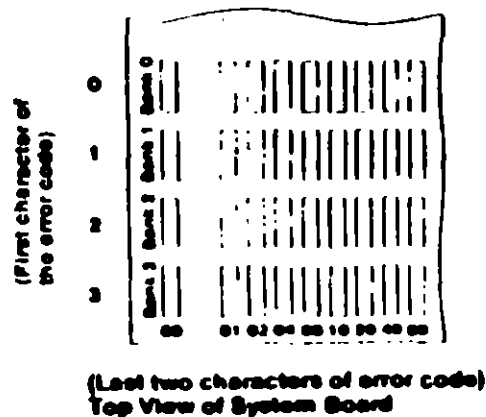

Figure 3. System Board
- Find the failing bank and module in Figure 3